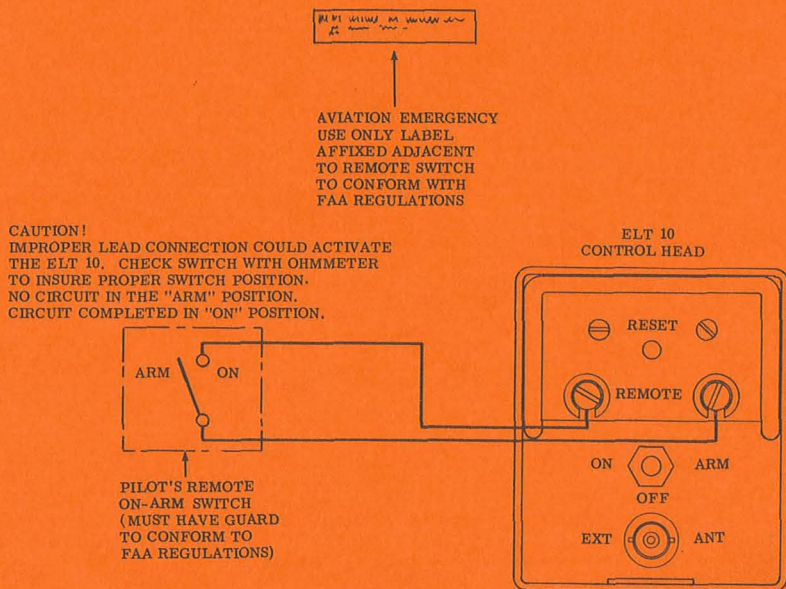

FIGURE 5
10. If a pilot's remote switch for the ELT (AP) or (AF) is desired, connect two #24 AWG wires from the two screws marked REMOTE on the ELT 10 to an ON-ARM guarded switch mounted on the instrument panel. See Figure 5. Set the Remote Switch to ARM.